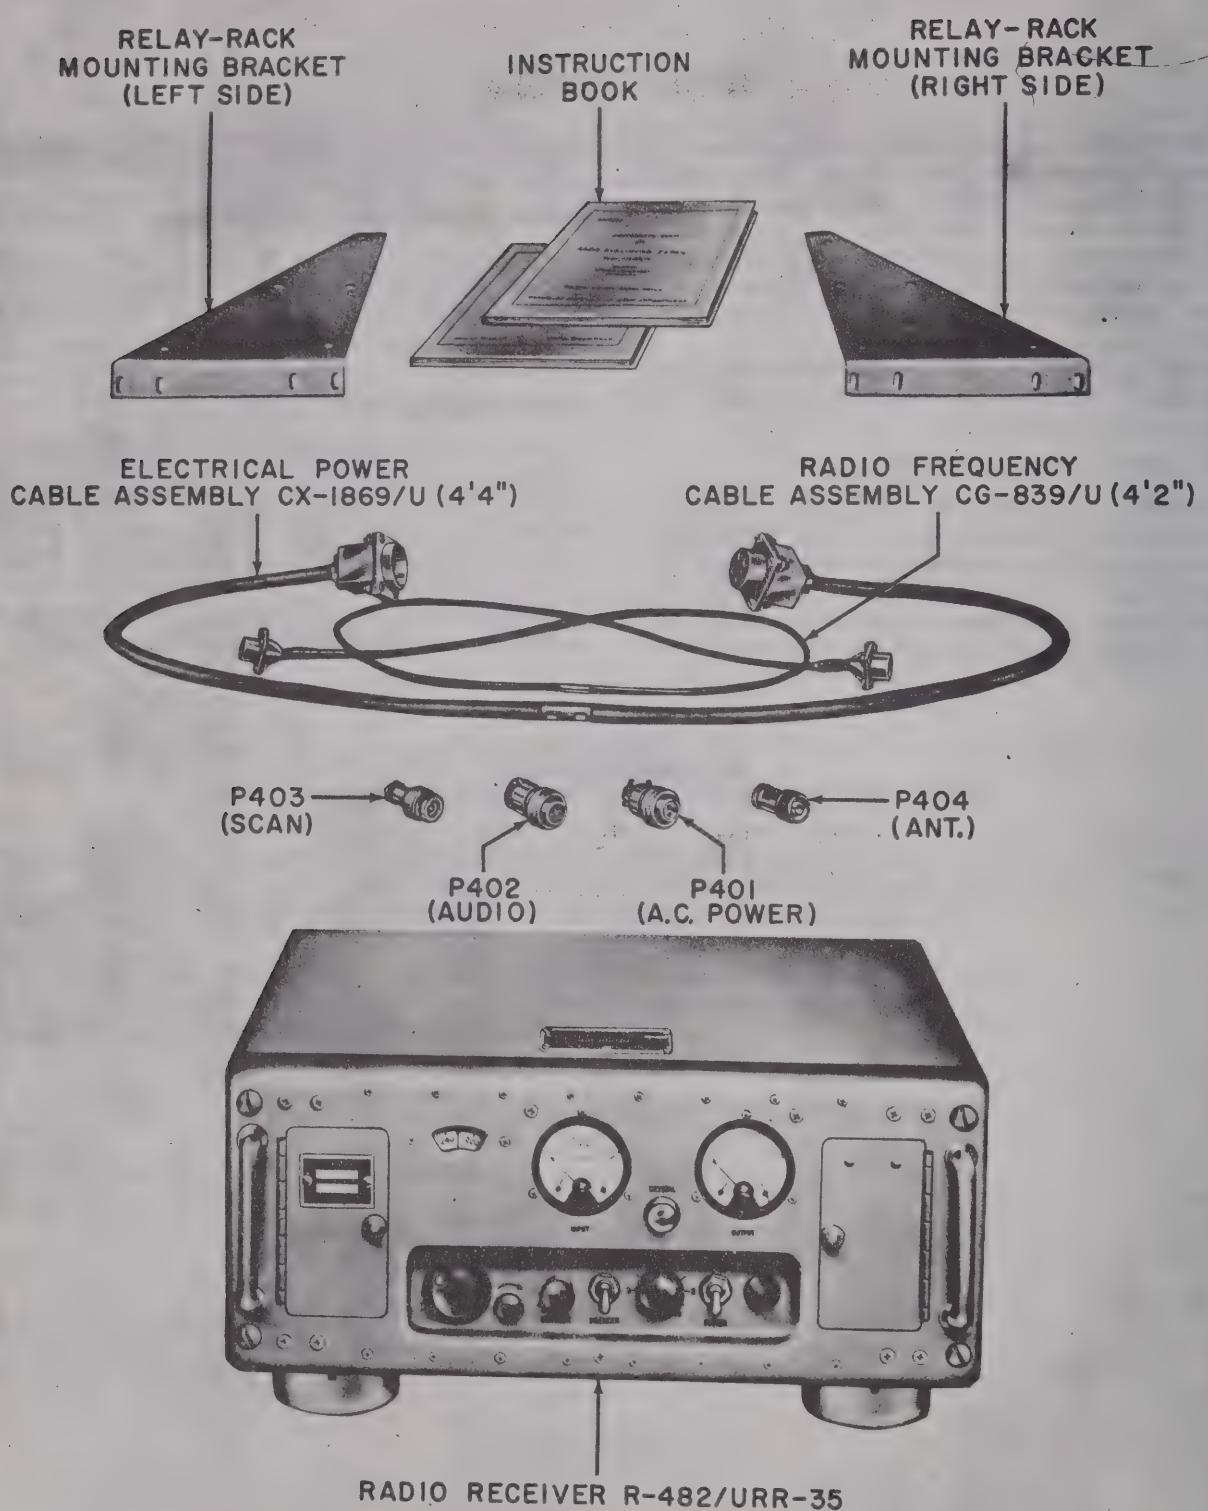

Figure 1-1. Radio Receiving Set AN/URR-35
c. EQUIPMENT ARRANGEMENT.—Radio Receiving Set AN/URR-35 is shown in figure 1-1. It consists of Radio Receiver R-482/URR-35, a pair of auxiliary angle brackets for relay-rack mounting, four plugs to mate with receptacles on the receiver for external connections, *Electrical Power Cable Assembly CX-1869U, *Radio Frequency Cable Assembly CG-839/U, and two copies of the instruction book. The receiver proper consists of a panel, frame and chassis assembly housed in a cabinet fitted with shockmounts. The equipment may be mounted on a bench or other firm horizontal surface, or (by attaching brackets) in a standard 19-inch relay rack.
Connector plugs P401 through P404 (see figure 1-1) are supplied with the equipment for use as required. Through connectors P401 and J401, a-c power is sup-
b. TEST CABLE ASSEMBLIES.*—Two test cable assemblies, shown in figure 1-1, are supplied with the equipment for use during maintenance procedures. When the receiver is removed from the cabinet during such procedures, these cable assemblies are used to connect the connector plugs on the rear of the receiver to the receptacles on the base plate of the low-pass filter; refer to preceding subparagraph *g.* Radio Frequency Cable Assembly CG-839/U (W601) connects the antenna input connector on the rear of the receiver chassis to the antenna input circuit of the filter assembly. Electrical Power Cable Assembly CX-1869/U (W602) connects the receiver power and audio circuits to the filter assembly.